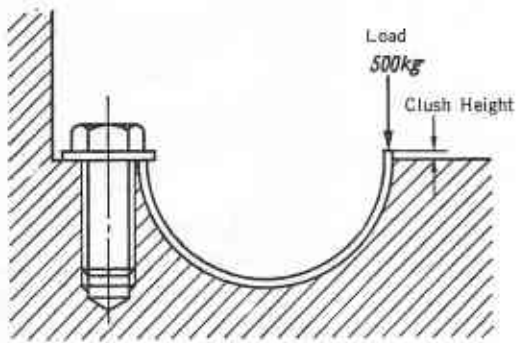

Fig. EM-33 Checking Clash Height of Main Bearing Bushing
2. Support the camshaft at ends on two "V" blocks which should rest on a surface plate as shown in Fig. EM-33. Set the plunger of a dial indicator to touch the intermediate journal and rotate the camshaft; the indicator readings should not differ by more than 0.02 mm (0.0008 in.) at any point. If the out-of-true exceeds 0.05 mm (0.0019 in.), straighten the camshaft under a press.